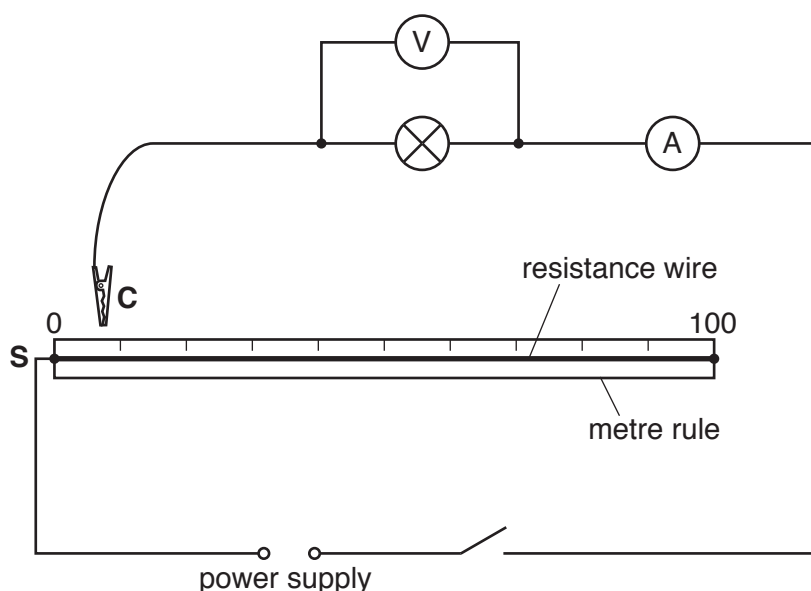

Fig. 3.1
1. The circuit shown in Fig. 3.1 must be set up for the candidates. The crocodile clip must **not** be connected to the resistance wire. At changeover, check that the circuit is still connected correctly and working.